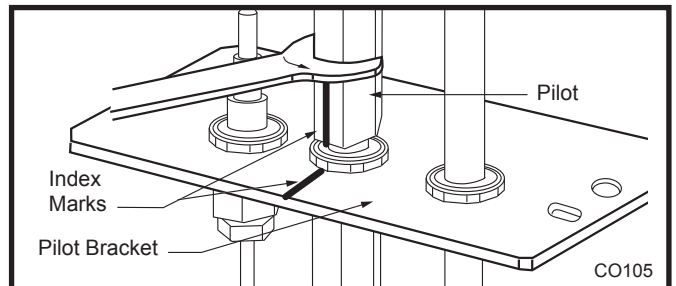

Fig. 59 Remove pilot hood. (Your pilot may have a different appearance.)
- Loosen pilot hood turning counterclockwise using a 7/16" wrench. (Fig. 59) **NOTE:** You may use penetrating oil to prevent pilot hood threads from seizing up.